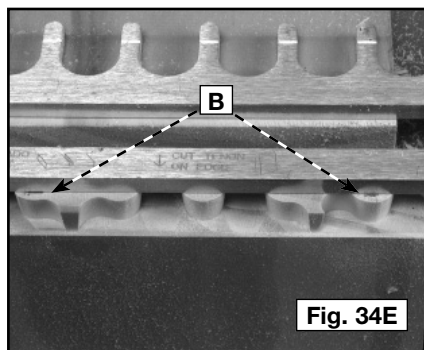

Fig. 34E
- Step 7** - Adjust the template back and forth to align the edge of the template with the marks on the wood (B) Fig. 34E.